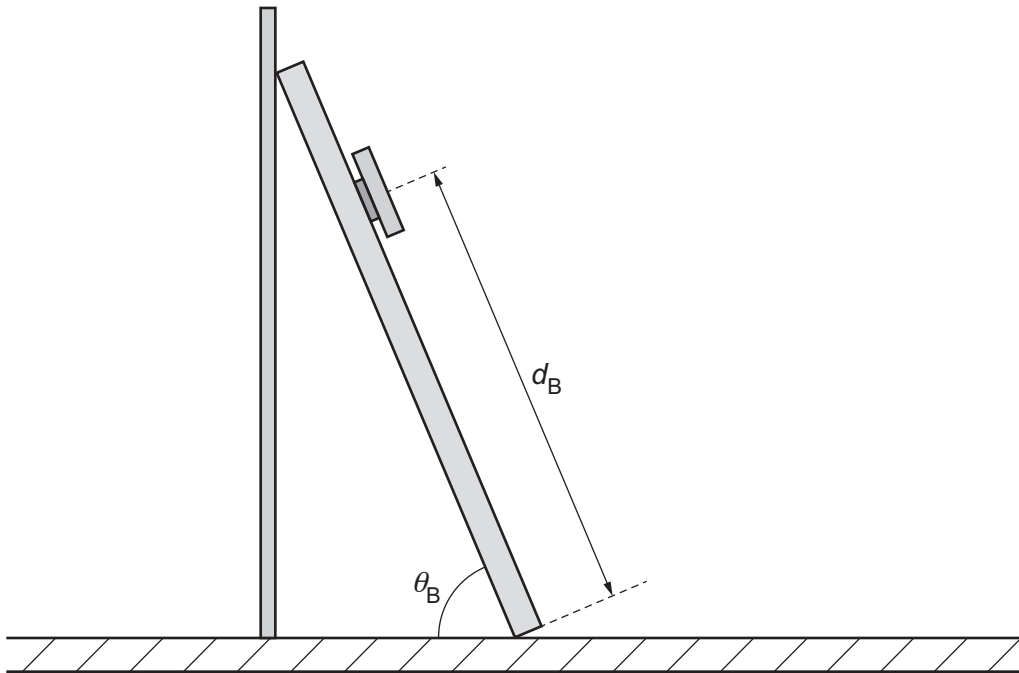

Fig. 2.3
- (v) • Invert the thicker strip and lean it against the smooth board so that the slotted mass is nearer the upper end as shown in Fig. 2.3.
- The angle between the strip and the bench is θ_B , as shown in Fig. 2.3. Measure and record θ_B .